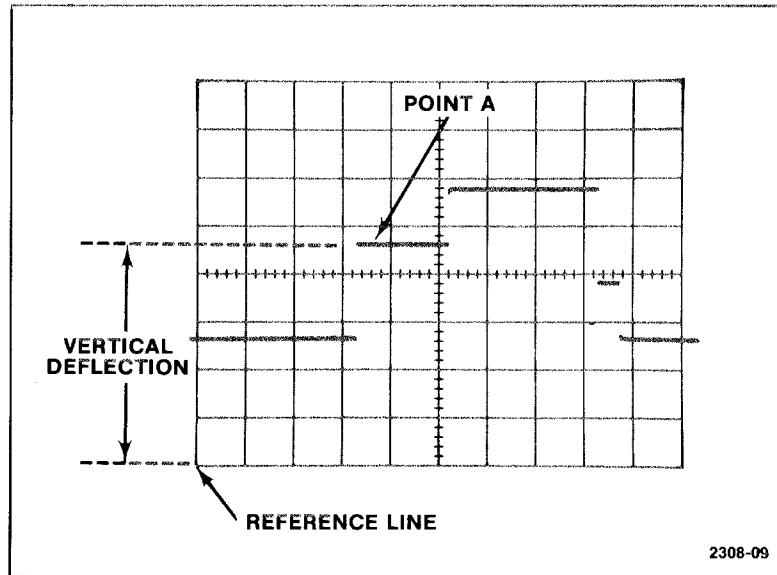

Fig. 2-3. Measuring instantaneous voltage with respect to some reference.
6) Measure the distance in divisions between the reference line and the point on the waveform at which the DC level is to be measured. For example, in Fig. 2-3, the measurement is between the reference line and point A.
EXAMPLE: Assume the vertical distance measured is 4.6 divisions (see Fig. 2-3) and the waveform is above the reference line using a 10X probe with a VOLTS/DIV switch setting of 0.5 V.